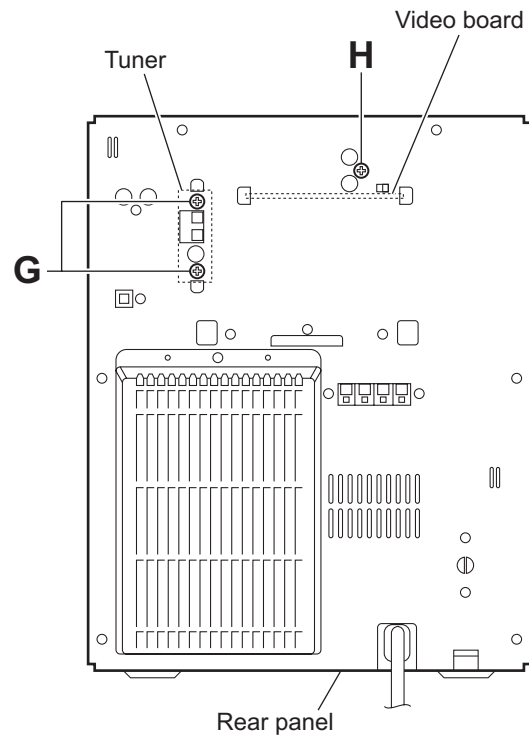

Fig.9
- (2) From the back side of the main body, remove the two screws **G** attaching the tuner to the rear panel. (See Fig.9.)
- (2) From the back side of the main body, remove the screw **H** attaching the video board to the rear panel. (See Fig.9.)